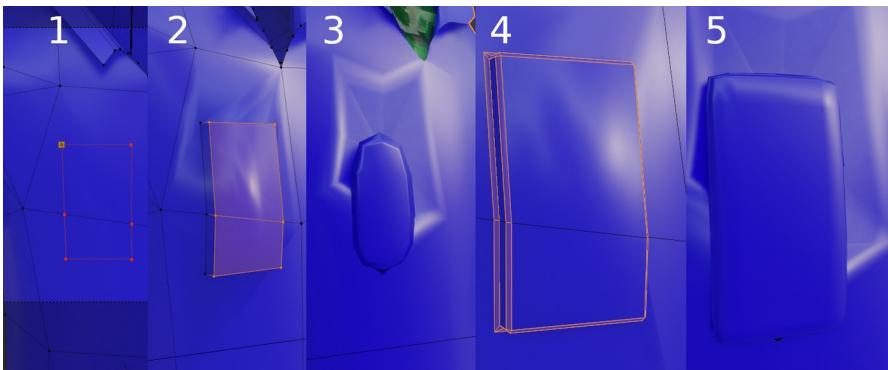

Figure 7-6 Cut, extrude and bevel a pocket
17. Still in Edit mode select the Knife tool from the Toolbar and draw a rectangle where the breast pocket will go. See Figure 7-6 stage 1. You will find this easier if you toggle the shrinkwrap and subdivision modifier Realtime option off so they don't distort or hide the mesh in the 3D Viewport. Vertices will be created where you LMB or where the red line crosses another edge. There is automatic snapping to edges or vertices so this tool is very easy to use. When the shape has been defined, press **ENTER** to fix it.
18. To make the patch shape into a pocket, extrude the rectangle you have created by a small amount as in Figure 7-6 stage 2, but note that when you enable the subdivision modifier it distorts the pocket drastically, as seen in stage 3.
19. The simplest way to stop the edges being smoothed like this is to add a bevel. Select the pocket edges, but excluding the ones crossing the center of the rectangle and bevel them, in Adjust Last Operation set Segments to 1 and an Offset of **0.001**. Now the subdivision and shrinkwrap should look much better, see Figure 7-6 stages 4 and 5. However the faces around the pocket look distorted because they are no-longer quads. That's what you should tackle next, it's the hard part of re-topology, but it's also the most satisfying.